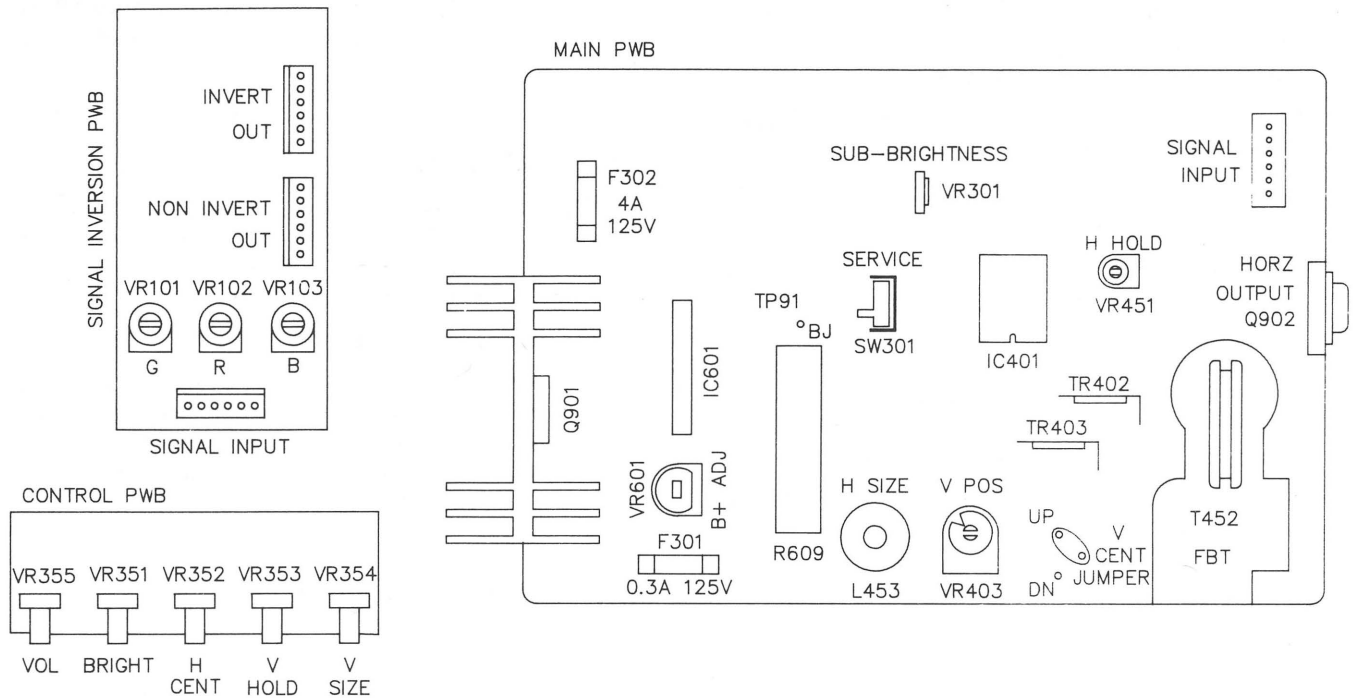
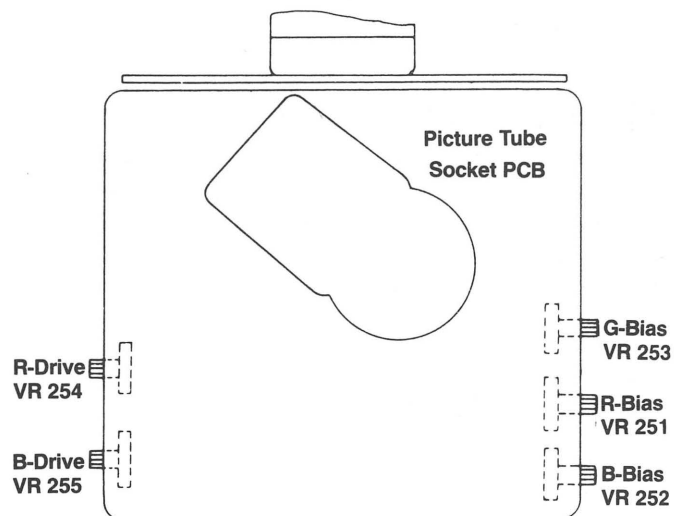

Figure 3 Adjustable Controls and Test Points on Main Chassis PCB, Control PCB, and Signal Inversion PCB
Figure 5 Adjustable Controls on Picture Tube Socket PCB
The BRIGHT control VR351 should be adjusted if the picture image is either too bright or too dark. See Figure 3 for the location of the Brightness control on the Control Printed-Circuit Board (PCB).
color or brightness, and whenever the purity and convergence is adjusted. (See Figure 3 for the location of the Screen and Brightness controls and Figure 5 for the Bias and Drive controls.)
The Horizontal Centering control should be adjusted if the picture is not centered on the screen, as indicated by a black area at either the left or the right edge. Figure 3 shows the location of the H-CENT control VR352 on the Control PCB. Adjust this control until a normal screen image is obtained.
The Vertical Hold control should be adjusted if the picture drifts straight up or down on the screen. Figure 3 shows the
The Vertical Size control should be adjusted if the screen image is either not filling the screen vertically, or if it is overscanning the screen vertically. Figure 3 shows the location of V-SIZE control VR354 on the Control PCB.
The Horizontal Width coil should be adjusted if the screen image is either too wide or narrow. Figure 3 shows the location of HORIZ WIDTH coil L453 on the Main Chassis PCB.
The Focus control should be adjusted if the screen image is not sharply defined. The Focus control is attached to the top of the horizontal-output transformer as shown in Figure 3. Turn this control until you get optimum screen sharpness.
The Horizontal Hold control should be adjusted if the picture is drifting sideways across the screen. Figure 3 shows the location of H-HOLD control VR451 on the Main Chassis PCB. Adjust this control until the black lines no longer slant downward or upward and you get a normal screen image.
- c. Adjust the Screen control for a dimly-lighted screen. This control is attached to the horizontal-output transformer as shown in Figure 3.
- a. Turn off the green and blue guns of the CRT by rotating the G-BIAS VR253 and B-BIAS VR252 controls to the fully counterclockwise position. (See Figure 5 for the location of the Bias adjustments.)